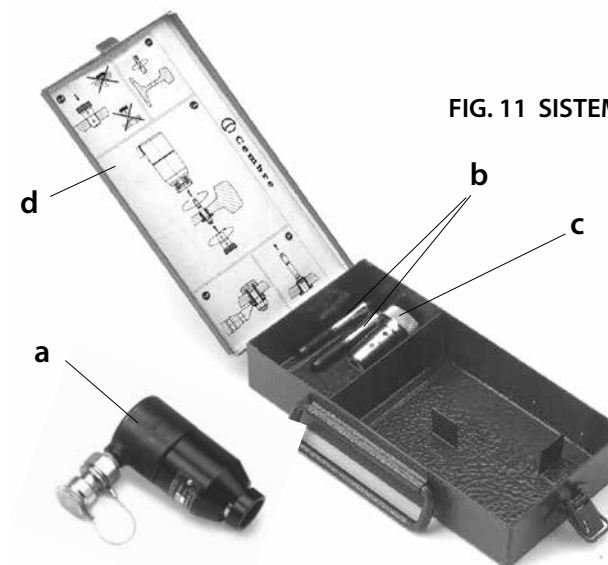

FIG. 11 SISTEMA RHTEP...
6. SISTEMA "RHTEP..." (Rif. a Fig. 11)